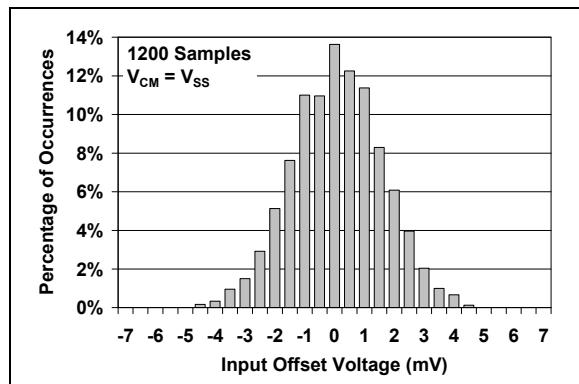

**FIGURE 1-3:** AC and DC Test Circuit for the Push-Pull Output Comparators.
**Electrical Specifications:** Unless otherwise indicated,  $V_{DD} = +1.6V$  to  $+5.5V$ ,  $V_{SS} = GND$ ,  $T_A = +25^\circ C$ ,  $V_{IN^+} = V_{DD}/2$ ,  $V_{IN^-} = V_{SS}$ , and  $R_L = 100 \text{ k}\Omega$  to  $V_{DD}/2$  (Refer to Figure 1-3).
**Electrical Specifications:** Unless otherwise indicated,  $V_{DD} = +1.6V$  to  $+5.5V$ ,  $V_{SS} = GND$ ,  $T_A = +25^\circ C$ ,  $V_{IN+} = V_{DD}/2$ ,  $V_{IN-} = V_{SS}$ , and  $R_L = 100 \text{ k}\Omega$  to  $V_{DD}/2$  (Refer to Figure 1-3).
**Electrical Specifications:** Unless otherwise indicated,  $V_{DD} = +1.6V$  to  $+5.5V$ ,  $V_{SS} = GND$ ,  $T_A = +25^\circ C$ ,  $V_{IN+} = V_{DD}/2$ , Step = 200 mV, Overdrive = 100 mV, and  $C_L = 36 \text{ pF}$  (Refer to Figure 1-2 and Figure 1-3).